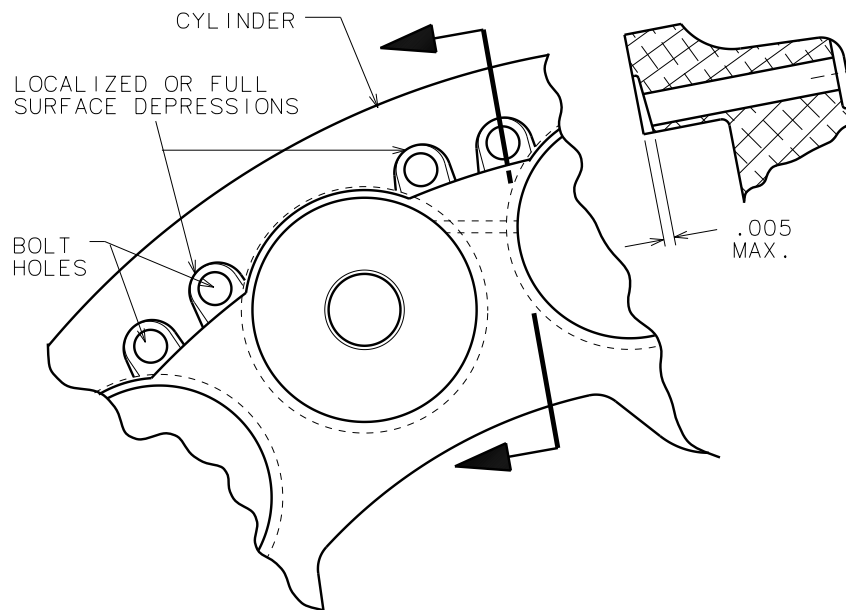

Figure 304 - Cylinder To Back Plate Surface Inspection
- (1) Visually inspect cylinder for cracks, nicks, corrosion, or other damage. Cracks in the lug area around the anchor bolts or the port bosses are cause for replacement of the cylinder. Check for dimpled areas around back plate bolt holes. Maximum allowable depression is 0.005 inch (0.127 mm). Ref. Figure 304.
- (2) Inspect the fitting ports and piston bores for contamination. Light scratches or nicks in the piston bores, pilot bores, or on the chamfered surfaces within these bores may be hand polished with 600 grit emery. Power tools are not recommended as they may remove excessive amounts of material. Thoroughly clean part.